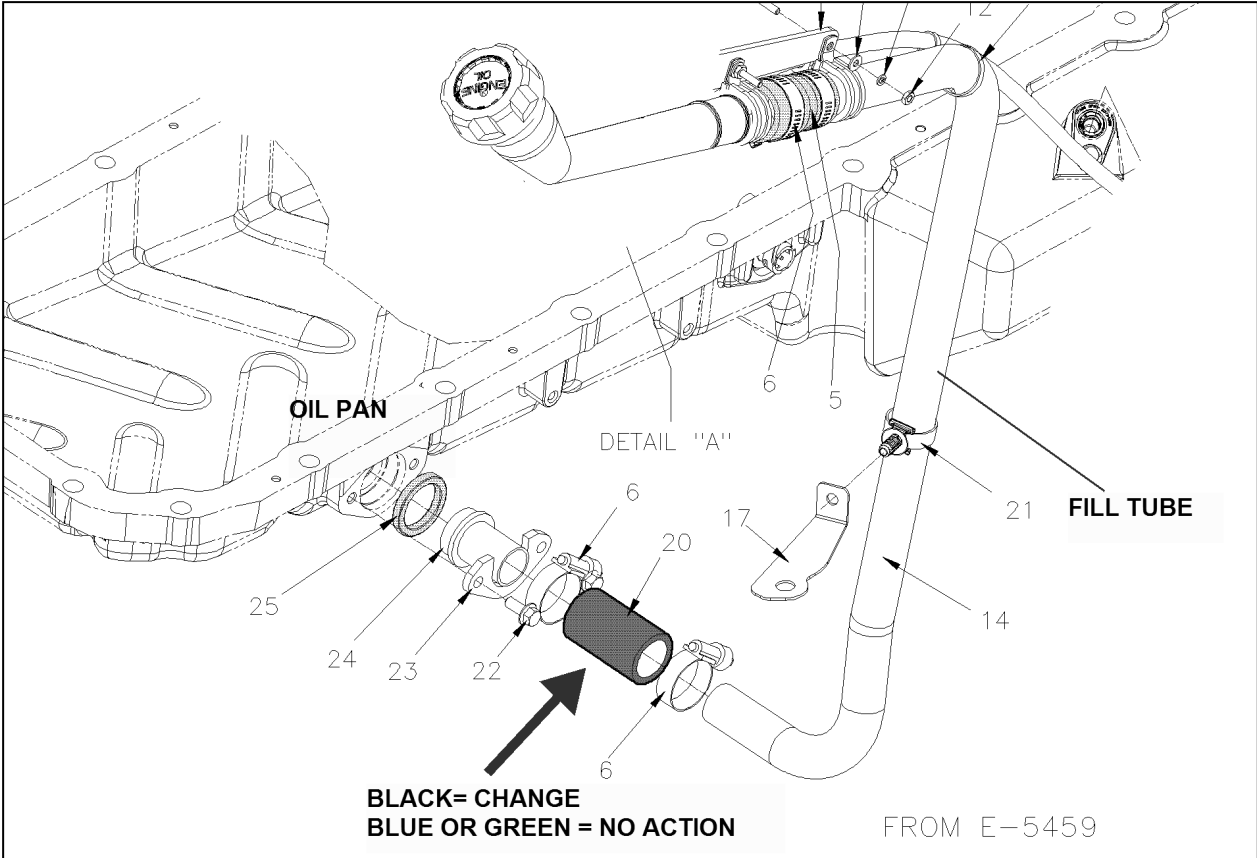

Figure 2
- B. Visually inspect the lowest section of the oil fill tube. (Fig. 2) The hose connecting the steel tube to the oil pan should be green or blue. (Fig 3 & 4)
- 4) Perform tube removal by undoing the two clamps. (Fig. 2) Dispose of tube according to regulations.